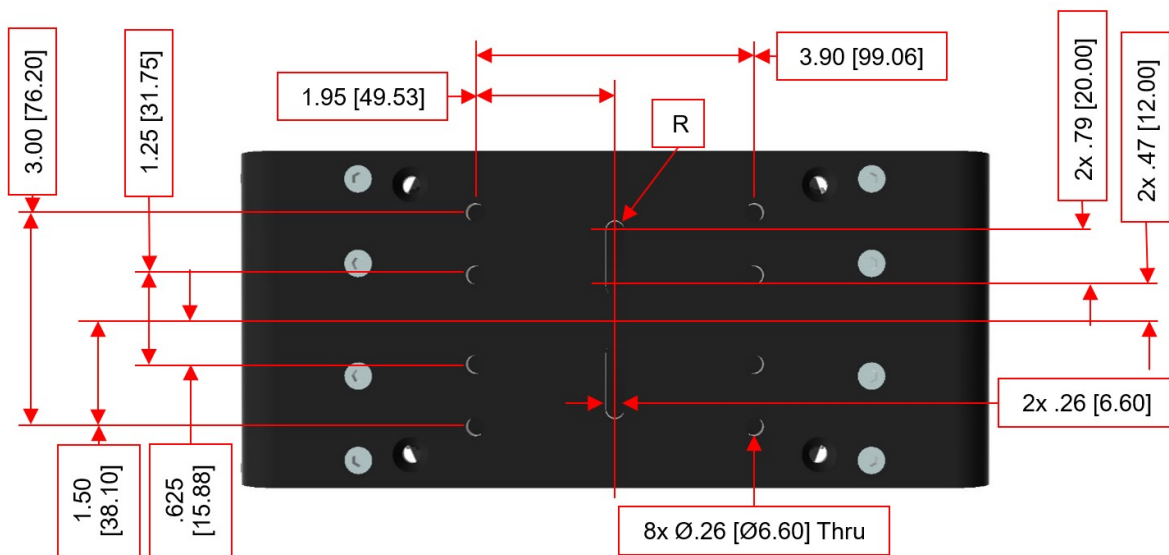
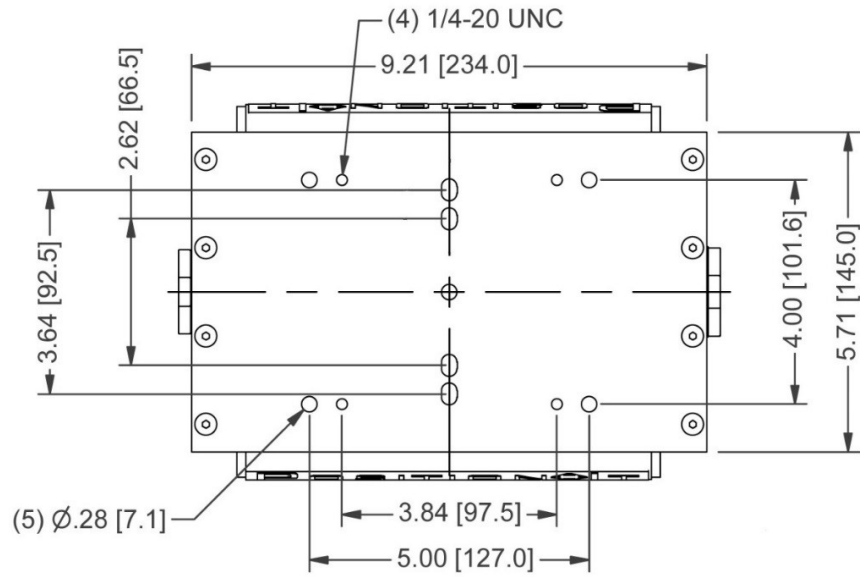

Figure 5-12 PositionIt™ PI-35 Payload Mounting Hole Pattern
Figure 5-13 PositionIt™ PI-75 Payload Mounting Hole Pattern
2. Reference Figure 5-12 or Figure 5-13 for the mounting hole pattern for the payload. Note that the four countersink holes in the corners of the payload platform are used for the Inflexion Plus nesting brackets, and are not used for mounting the payload.